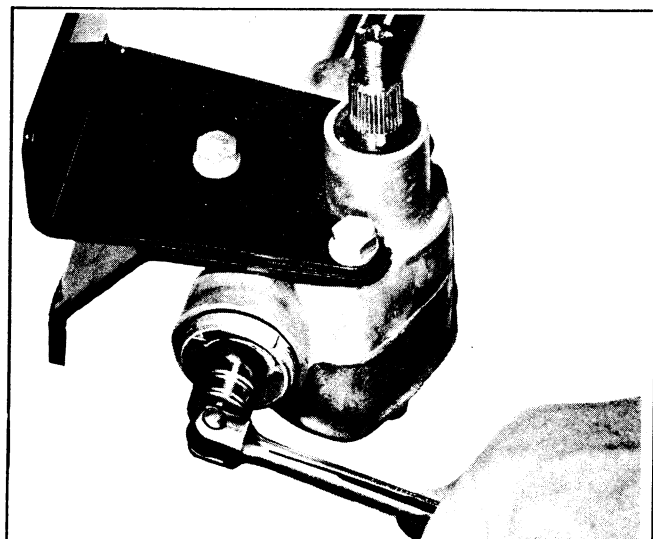

Figure 2-39. Adjusting Worm Bearings
Note that lockwasher (14) or locking cup (14A) is bent down to fit into a notch in housing flange at one point. This is the original factory adjustment. If the adjustment is correct, there should be a very slight amount of drag on bearings when turning steering shaft. Check for excessive looseness by pulling up and pushing down on steering wheel - there should be no play. To adjust out any looseness, remove nut (13) and lockwasher (14), or locking cup (14A). Turn cap (15 or 15A) inward to produce a slight amount of bearing drag and take out any up and down play in steering wheel shaft (See Figure 2-39). When the adjustment is finished, install washer (14), nut (13), or locking cup (14A), and use a punch to bend washer (14) or cup (14A) into housing notch to hold nut in position. If cup (14A) is used, also stake edge of cup over end of nut to keep nut from turning.